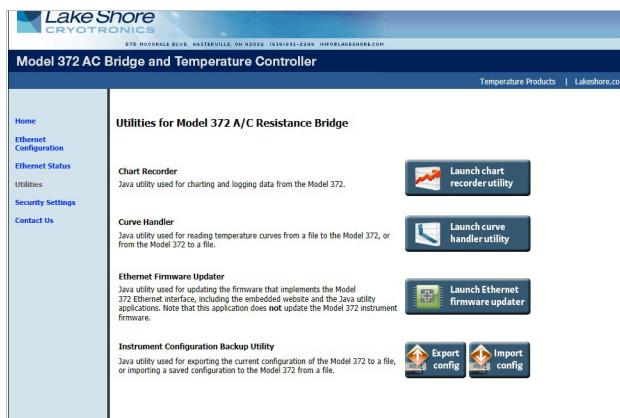

FIGURE 6-7 Utilities page
1. On the Utilities page in the Model 372 embedded website, click **Export config** (FIGURE 6-7).
1. On the Utilities page in the Model 372 embedded website, click **Import config** (FIGURE 6-7).